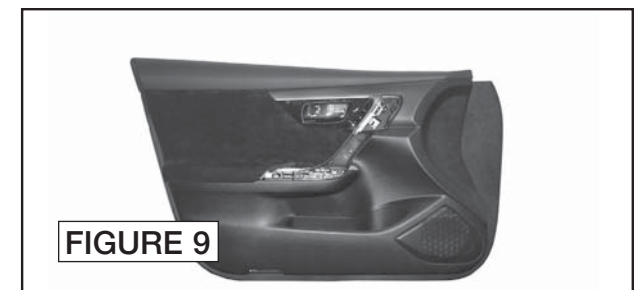

FIGURE 9
9. Starting at the front edge, pry out rear pillar trimpanel to release four (4) clips. Lift trimpanel to remove (Figure 9).